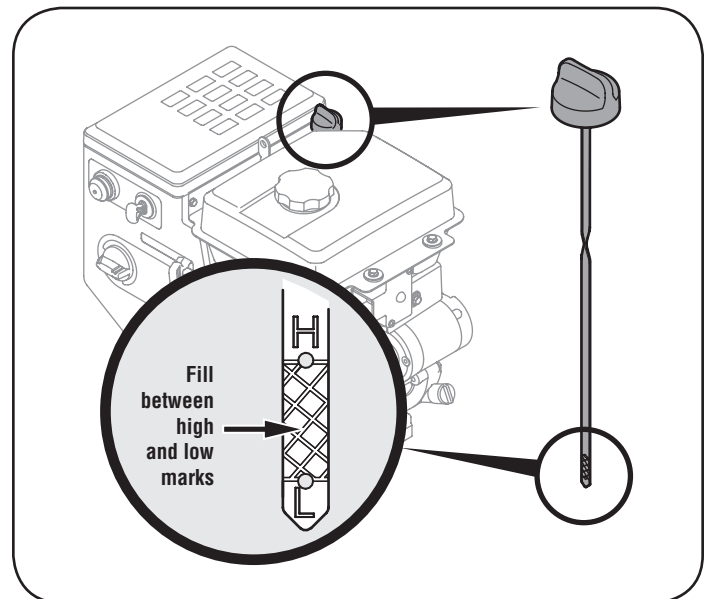

Figure 20
3. Remove the oil filler cap/dipstick. If level is low, slowly add oil until oil level registers between high (H) and low (L). See Figure 20.